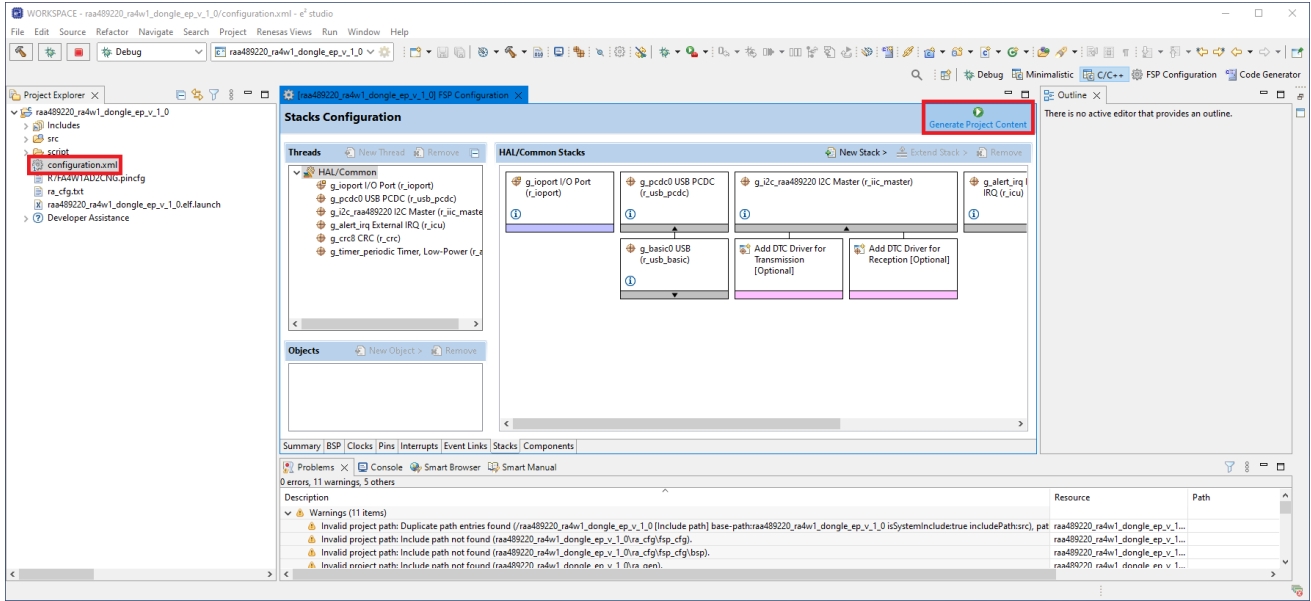

Figure 5. Generation of Additional Project Files
4. The project is imported into the e2 studio workspace, and Figure 5 shows the imported project structure. Double-click on **configuration.xml** to open the FSP Configurator. Click the **Generate Project Content** button to generate the hardware specific project files that are needed to run the project on the selected hardware. The project is ready to be built.